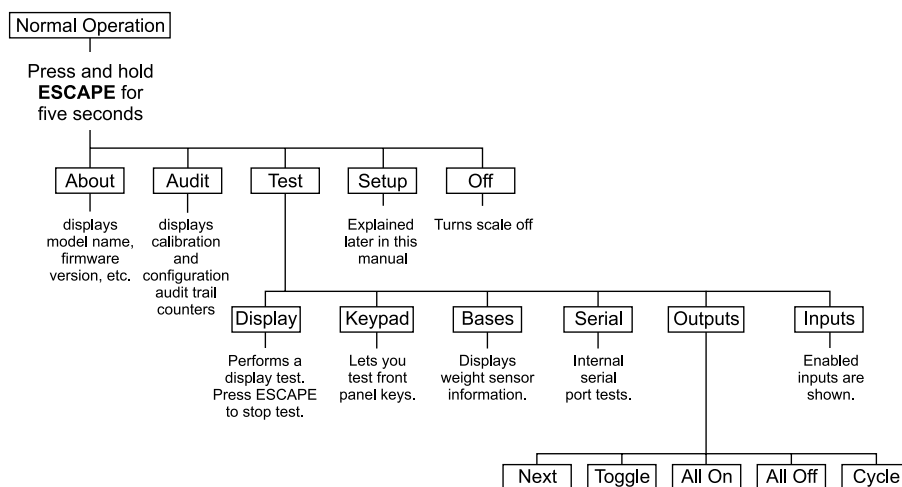

Figure 3
- Test** Press this softkey to access the test menus for the display, keypad, local or remote Quartzell bases or a remote analog base, serial ports, outputs and inputs. Follow prompts on the display to accomplish these tests. See Figure 3 and the *Test Menu* section below for more information.
The Test menu, shown in Figure 3, lets you test your scale operation.